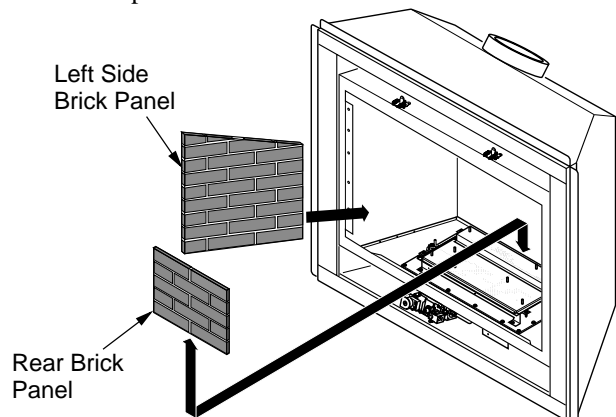

Figure 38 - Installing Rear Brick Panel
5. Install rear brick panel first. Rest bottom edge of panel on back edge of burner assembly (see Figure 38).
6. Install left side brick panel by sliding it between the burner assembly and the side of the firebox (see Figure 38).